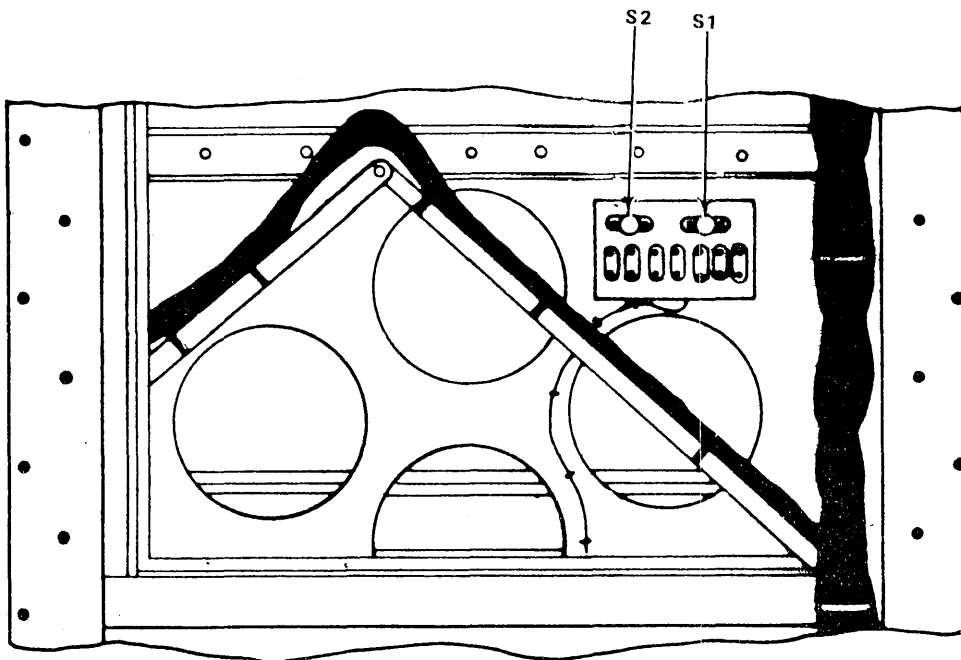

Figure 8-4. I/O Console Cabinet Thermostats.
f. Locate thermostat switches S1 and S2 on sensor (see figure 8-4).
g. Use a hot air gun to heat THERMOSTAT switch S1 (figure 8-4). The hot air gun may be removed from the thermostats when operating switches.
k. Remove hot air gun from S1, and heat THERMOSTAT switch S2 (figure 8-4).